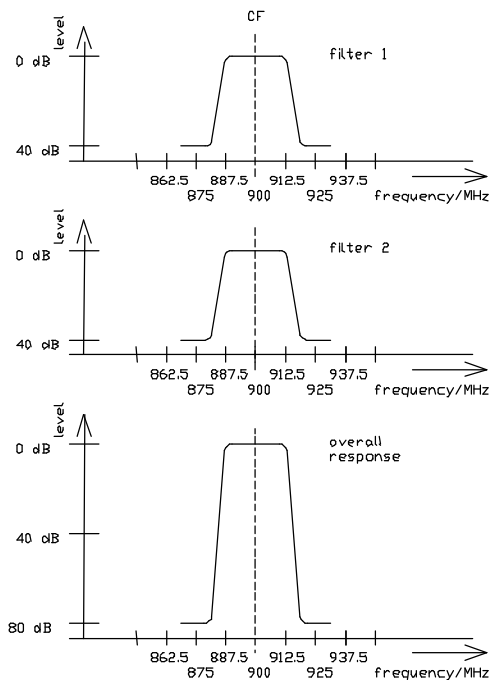

figure 1
In figure 1 we see that filter 1 and filter 2 are both set to a centre frequency (CF) of 900 MHz. The resulting overall response of the module is thus a 25 MHz band with a centre frequency of 900 MHz ($\Rightarrow$ frequency range from 887.5 MHz to 912.5 MHz). The attenuation in the stop band of one filter was assumed to be 40 dB.